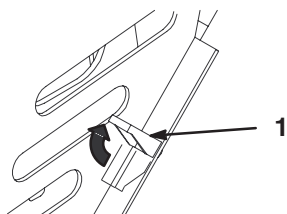

Figure 17
3. Release the four locking tabs (Fig. 17).
1. Position the hood over the traction unit frame with the posts on the hood fitting into the holes on the frame (Fig. 17).
2. Secure the hood by pushing the locking tabs forward and down (Fig. 17).